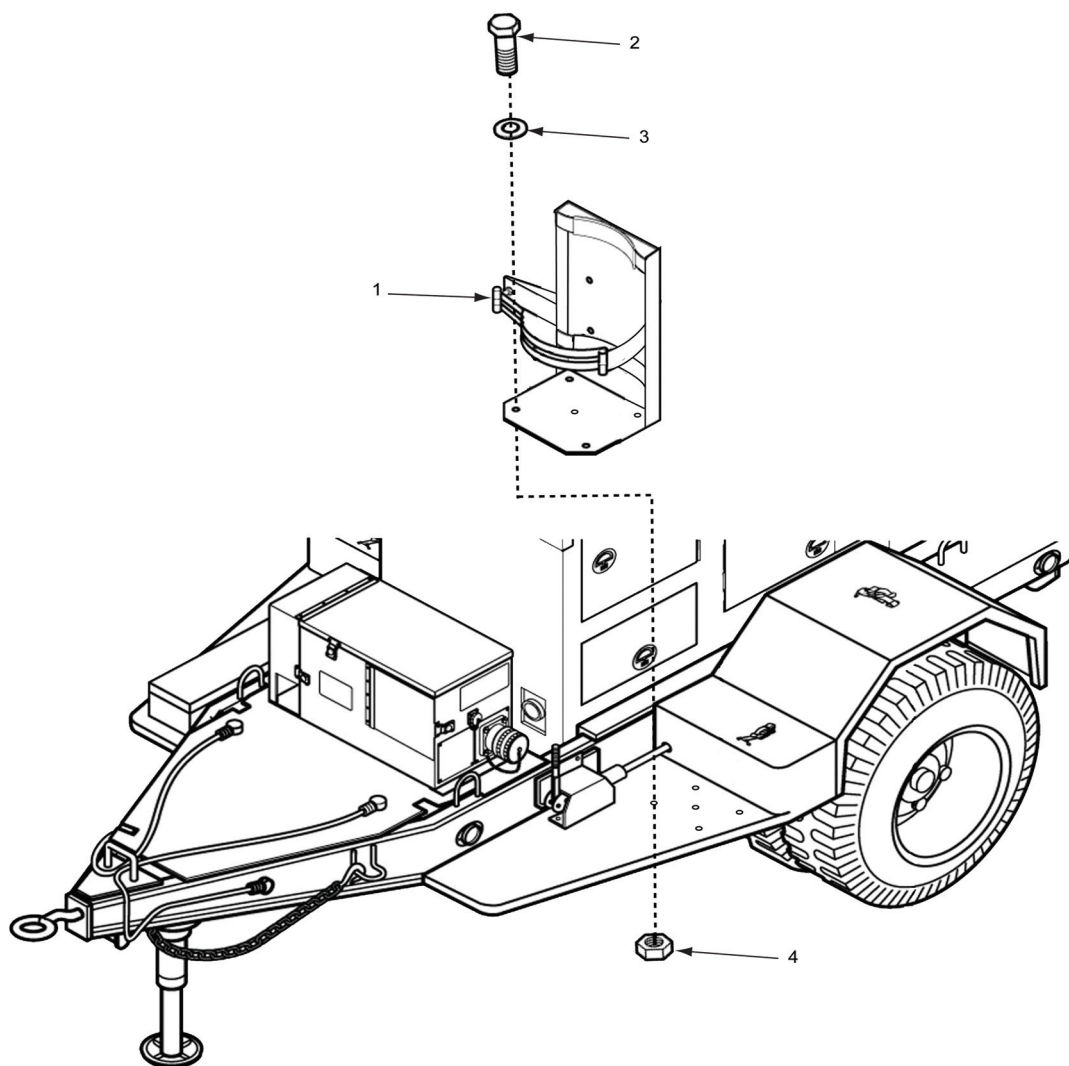

Figure 4-28. Fire Extinguisher Bracket
1. Remove fire extinguisher from bracket (1, figure 4-28).
2. Remove self-locking nuts (4), flat washers (3), and cap screws (2). Remove fire extinguisher bracket (1) from fender. Discard self-locking nuts (4).